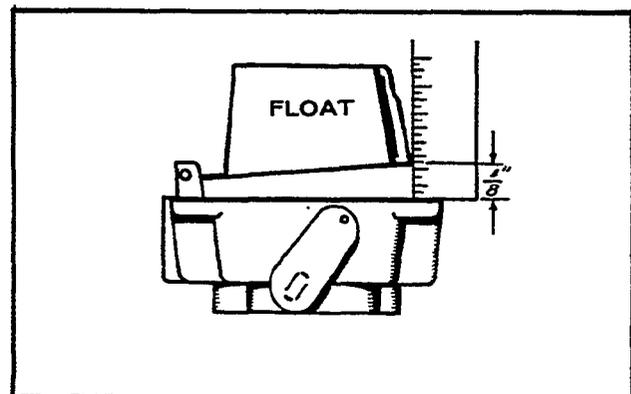

FIGURE 6. FLOAT ADJUSTMENT
2. Invert float assembly as shown in Figure 6.
3. If it is necessary to reset the float level, bend the float tangs near the pin to obtain a  $1/8$ " clearance (Figure 6).